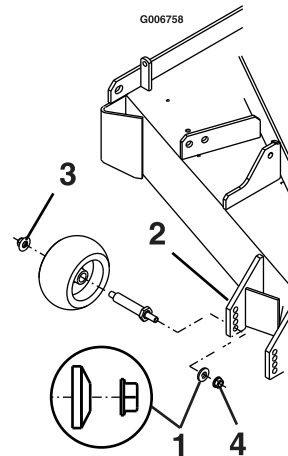

Figure 19
8. Torque the 3/8–16 whizlock nut to 30-35 ft-lb (41-47 N-m) (Figure 19).